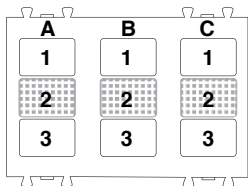

Fig. 2a
The front of the device is divided into nine sensitive areas, divided into three columns of three areas each. For each column it can be activated either the central area (2) or the two areas at the top and at the bottom (1 and 3) (see Fig 2a, 2b, 2c). There will then be a minimum of three active sensitive areas to a maximum of six (default condition).